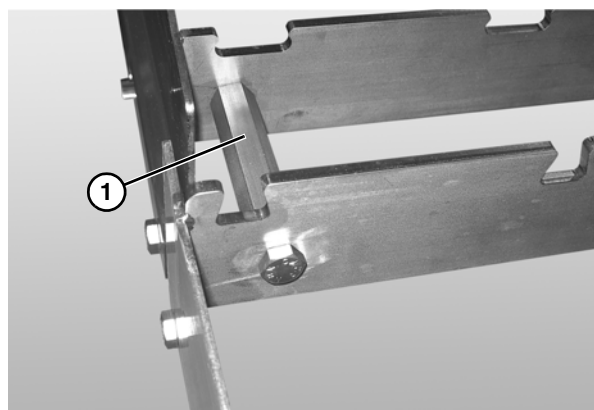

Figure 7
3. Connect the frame sections by bolting the hex post connectors (**Figure 7, item 1**) between frame sections. Be sure O-rings are seated properly on hex post and hex screws prior to tightening of screws to avoid damage to O-rings.